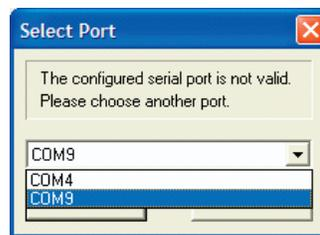

Figure 42. Select Port Dialog
- Select the serial port to be used (Figure 42). (If multiple COMx numbers are shown in the drop down menu, then choose the bottom COMx number.)